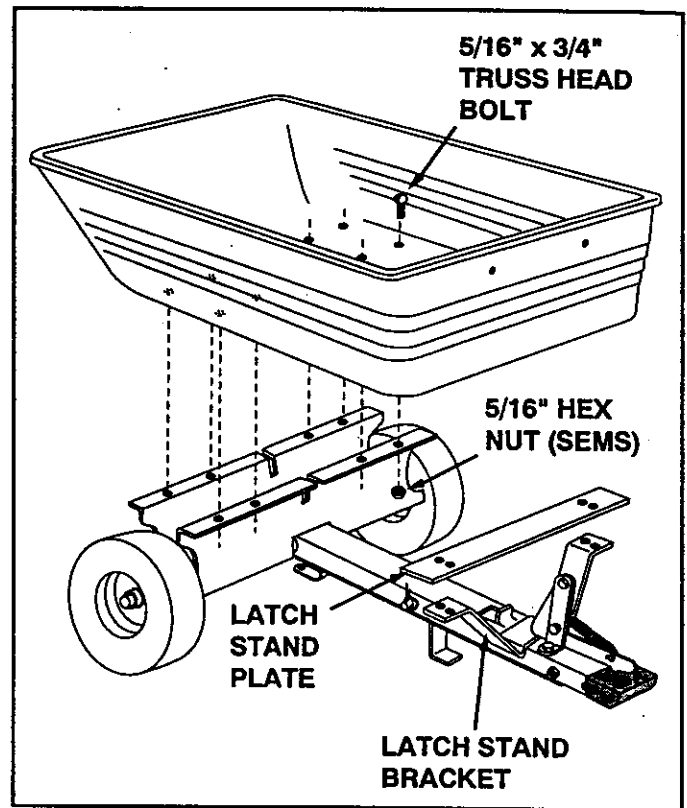

FIGURE 7
- Turn the wheel support over to the upright position. Place the latch stand bracket down between the latch lock assembly and the raised tab on the tongue. Place the poly tray down to rest on the wheel support and latch stand bracket. Fasten the tray to the wheel support using eight 5/16" x 3/4" truss head bolts and 5/16" (SEMS) hex nuts. **Do not tighten yet.** See figure 7.
- Place the latch stand plate between the latch stand bracket and the poly tray. See figure 7.